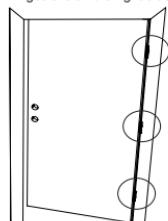

Figure 4b
b. If the hinges are on the right your door is Right Handed (Figure 4b).